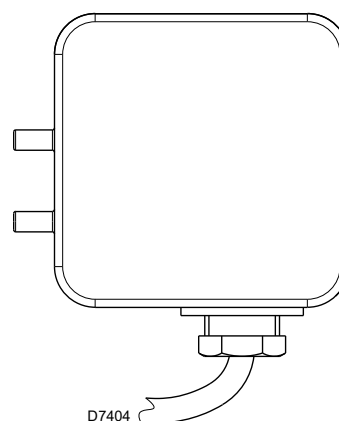

Fig. 24
- Adjust the air pressure switch (Fig. 24) to the start of the scale.
Adjust the air pressure switch (Fig. 24) after performing all other burner adjustments with the air pressure switch set to the start of the scale.